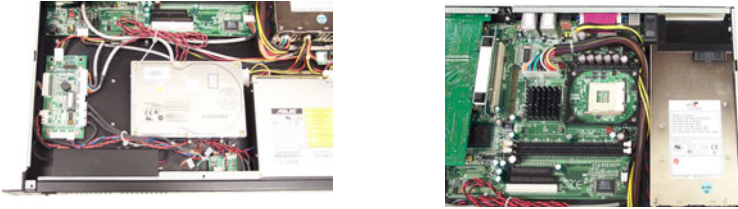

Figure 2.7 Front & Rear cooling fans
There are four (4) cooling fans located inside the chassis. The cooling fans are low maintenance and provide adequate cooling to the system by blowing air inward. There are three cooling fans located on the front of the chassis to suck in fresh air as figure 2-6; one cooling fan is located on the rear of chassis to draw the thermal out as figure 2-7.